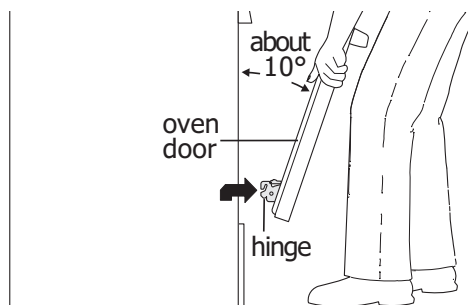
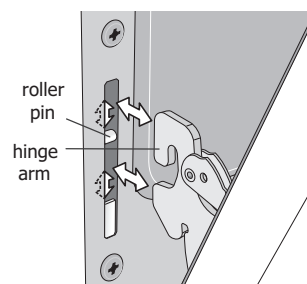

Figure 12: Holding door for removal
Figure 13: Replacement and location of hinge arm and roller pin
3. Firmly grasp both sides of oven door along the door sides. Do not use the oven door handle (See Figure 12).
4. Close the door to approximately 10 degrees from the door frame (See Figure 12).
5. Lift the oven door hinge arms over the roller pins located on each side of the oven frame (See Figure 13).
1. Firmly grasp both sides of oven door along the door sides. Do not use the oven door handle (See Figure 12).
2. Holding the oven door at the same angle as the removal position, seat the hook of the hinge arm over the roller pins located on each side of the oven door frame (See Figure 12 and Figure 13). The hook of the hinge arms must be fully seated onto the roller pins.